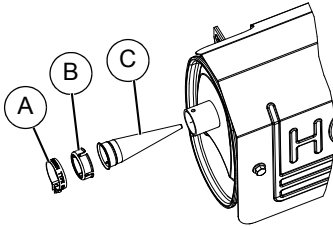

Figure 4-6. Spark Arrester Screen
1. Loosen clamp (A). See Figure 4-6.
2. Inspect cone (C) and replace if torn, perforated or otherwise damaged. If cone is not damaged, clean with commercial solvent.
3. Replace spark arrester cone (C) and collar (B). Secure with clamp (A).